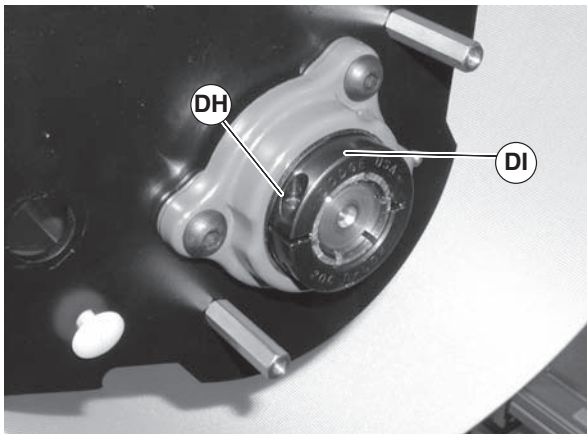

Figure 101
9. Loosen clamp screw (Figure 101, item DH) and remove bearing collar (DI).